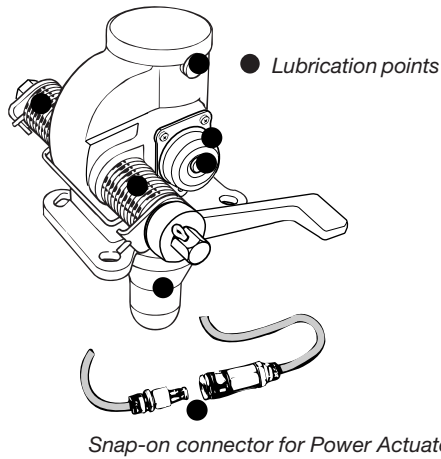

Figure 8
- After the installational and operational checks the mechanism should be lubricated with VBG Mechanism Oil. See figure 8.
- At regular intervals lubricate the mechanism with thin oil. The simplest way is to use the VBG Mechanism Oil, a specially developed oil with good cleaning and lubricating qualities. Never use grease because of its tendency to clog. For lubricating points, see figure 8.
- If the coupling is equipped with a power actuator the snap-on connector should be lubricated regularly with thin oil. See figure 8.